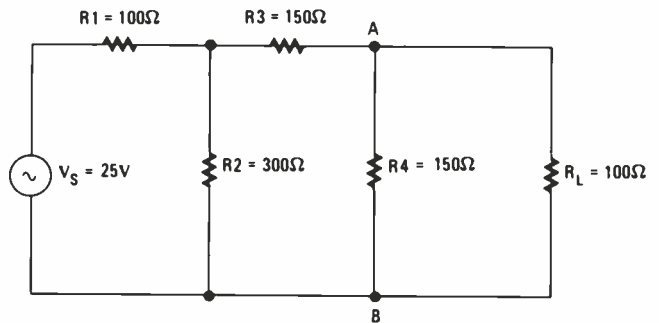

Fig. 16—Follow the basic steps for using Thevenin's Theorem when working the practice problem for this circuit.
2. Now have one more go at using Thevenin's theorem yourself. Refer to Fig. 16. Calculate the Thevenin's equivalent voltage and resistance.